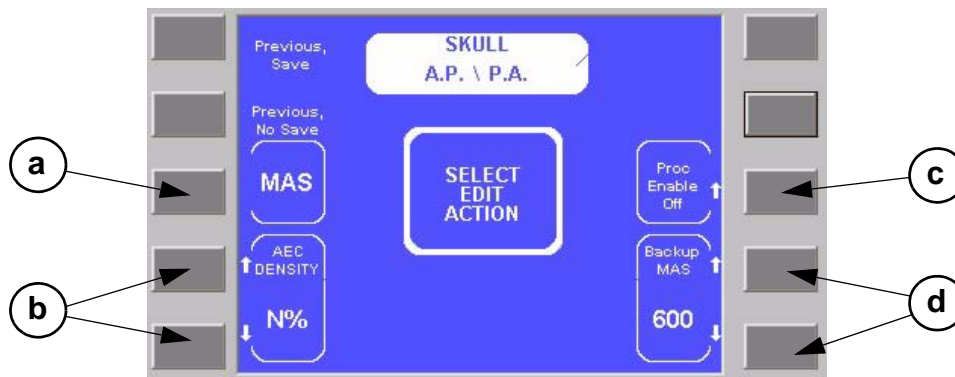

Figure 4-8. APR Procedure Value 2 Screen
- c. Select a "view" to edit by pressing the corresponding field select key. For example, to edit the **A.P. \ P.A.** view (see Figure 4-8), press key adjacent to the **A.P. \ P.A.** field. The APR View Edit screen appears:
- c. The **Proc Enable** field (see Figure 4-10, item c) setting enables or disables the selection of this particular programmed procedure (view) in the APR View Selection Screen (see Figure 4-8). In the example shown in Figure 4-8, the system's default programmed procedures, such as "P.A. (GRID)" are selectable since the **Proc Enable** setting for each of these views has been set to "On" at the factory. Note, however, the blank fields that appear in the APR View Selection screen (see Figure 4-8) are views that have been disabled because their **Proc Enable** setting is set to "Off", and the "view names" have been edited to all blank spaces (refer to "Editing a View Name" procedure on the preceding pages of this chapter. The result is that when the user presses the key adjacent to any of the blank fields, there is no response by the system. In the event that you need to activate a currently "inactive" procedure, change the **Proc Enable** setting to "On"; the view is now enabled for selection by the user in the APR View Selection Screen.